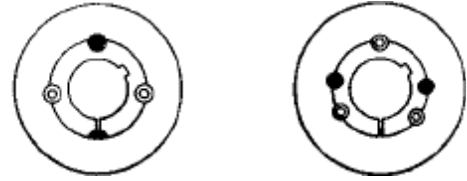

Fig. 9-1 Pulley holes
3. Fit the bush into the hole in the pulley, taking care to align the threaded half-holes on the pulley with the unthreaded half-holes on the bush (Photo 1). There may be 2 or 3 of these holes (Fig. 9.1), as can also be seen in Table 9.1, depending on pulley size.